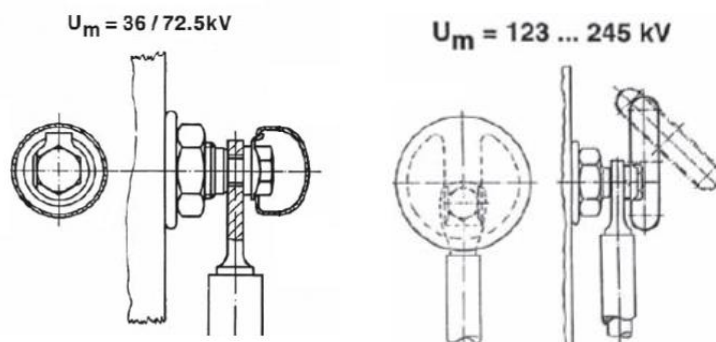

Figure 13
(8) Remove the M10 bolts, shields and other parts of the connecting wires on the diverter switch oil compartment, and fasten the tap selector wires to the corresponding outlet contacts of the diverter switch, and cover the shield. The tightening torque is 50 Nm (Fig. 13).
- (6) Remove the M10 bolts, shields and other parts of the connecting wires on the diverter switch oil compartment, fasten the tap selector wires to the corresponding contacts of the diverter switch, and cover the shield (Fig. 13).